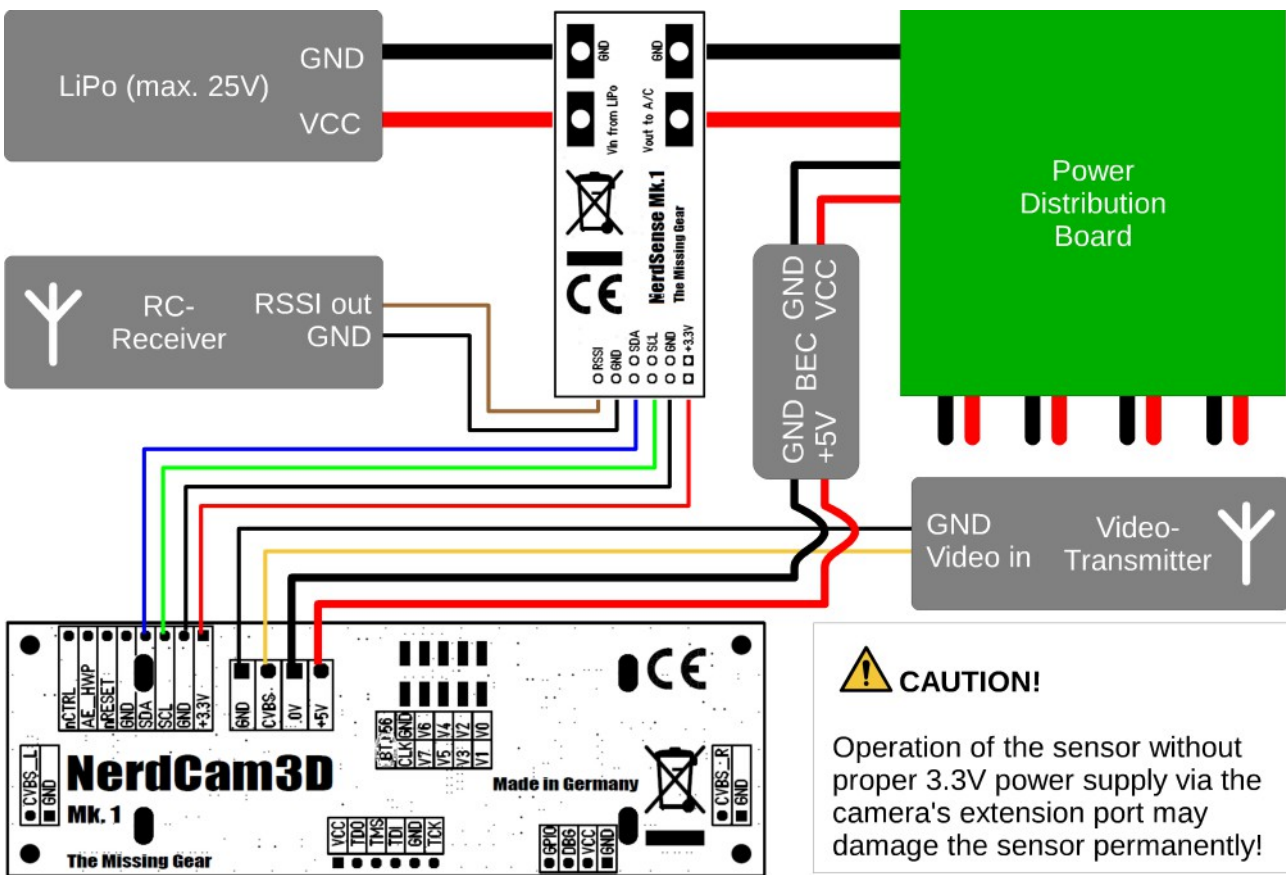

Figure 2: Wiring of the sensor with the 3D-camera and other components
4. Connect the sensor to the camera and the RC-receiver as shown in Figure 2.